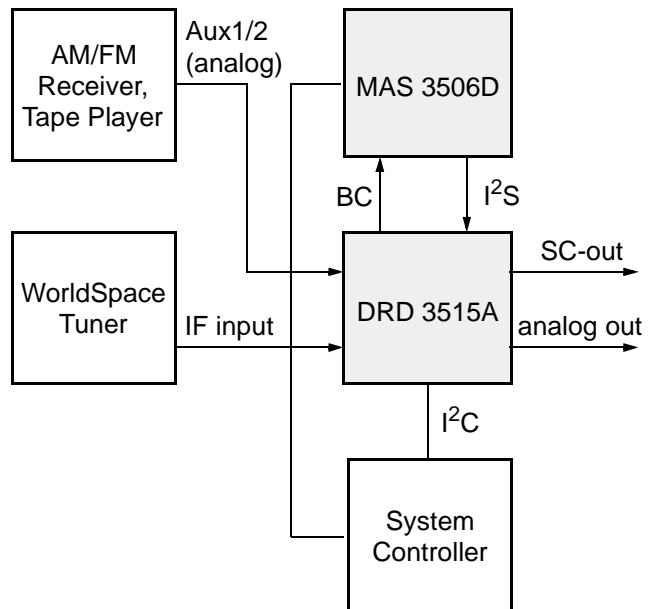

Fig. 1–1: Standard application of the StarMan chip set
The MAS 3506D is the source decoder of Micronas' StarMan chip set that is designed for the reception of WorldSpace signals. The MAS 3506D extracts one Service Component (SC) of an incoming digital WorldSpace Broadcast Channel (BC) and decodes MPEG 1/2/2.5 Layer 3¹⁾ encoded audio data contained in the selected Service Component. The Service Control Header (SCH) information from the Broadcast Channel is accessible via the embedded fast mode serial control interface. The MAS 3506D provides digital audio data output in I²S and similar formats. An embedded digital buffer-controlled loop recovers the sampling frequency of the audio signal and generates a synchronized 24.576 MHz clock signal which is used as an oversampling clock for D/A converters. A block diagram of the MAS 3506D is shown in Figure 1–2 on page 5.
The Micronas StarMan chip set consists of the channel decoder DRD 3515A and the MPEG Layer 3 audio decoder MAS 3506D. All essential analog and digital building blocks for WorldSpace reception are provided by the chip set. Together with an L-band tuner and an appropriate microcontroller this set creates a complete StarMan radio receiver (Figure 1–1)